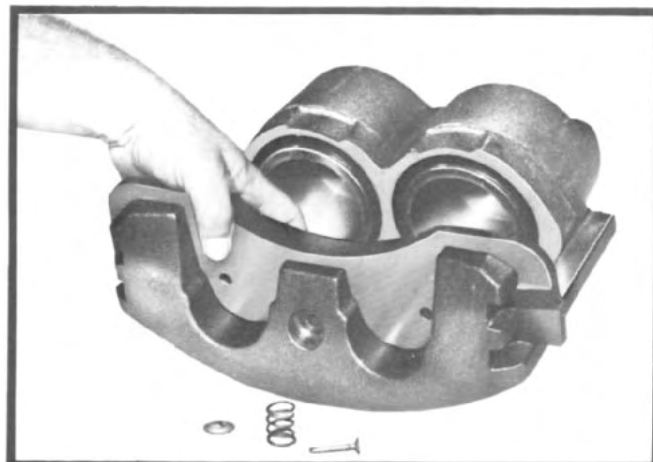

Fig. 28—Installing outer shoe and lining assembly.
(3) Install outer shoe and lining into caliper and install shoe hold-down spring and pin. (Fig. 28)